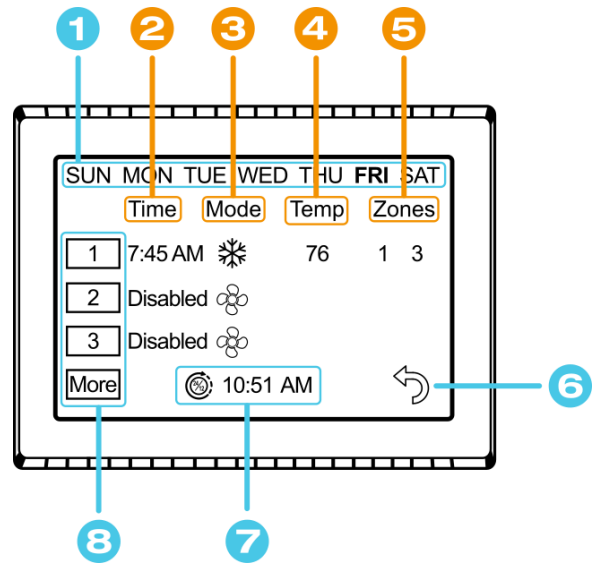
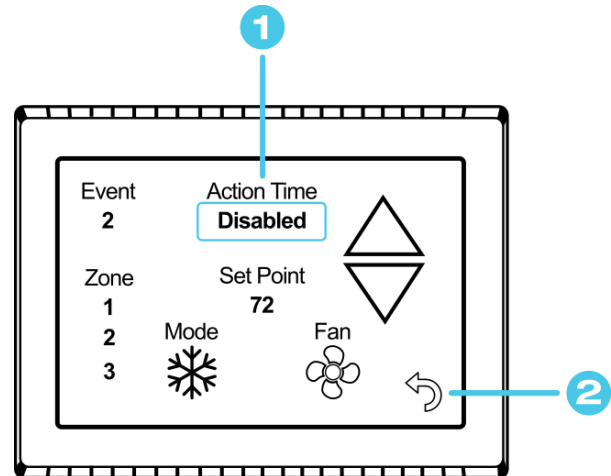
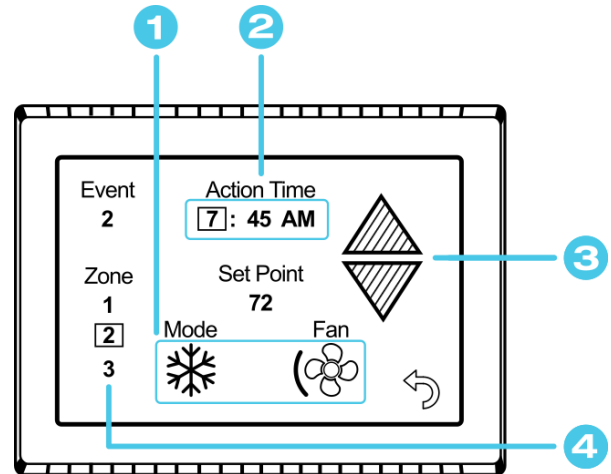

Figure 3 - Main Schedule Screen
Figure 4 - Schedule Edit Screen (Disabled Event)
Figure 5 - Schedule Edit Screen (Enabled Event)
The schedule supports 7 day per week scheduling of events. Events can include changes to the set point or mode of operation for one or more zones. Each numbered row is an event that can be configured. *Figure 3* shows the main schedule screen. Tap the “Schedule” button from the *Settings Screens* to enter.
Events are numbered 1 to 6 along the left side of the screen. Each row is a numbered event. Tap an event to edit it and advance to the schedule edit screen, shown in Figure 4. Tap “More” to see events 4, 5, and 6.
Figure 4 shows the edit screen when an event is tapped as shown in (8) *Scheduled Events* of *Figure 3 - Main Schedule Screen*. The event time on the main schedule screen and Action Time in the edit schedule screen will show disabled until a time is set. Tap “Disabled” (1) at the top of the screen to show a gray box around the Action Time to select it. The up and down arrows change to full color once a selection is made. Use the arrows to make a change to what is selected. Use the back arrow (2) to save any changes and leave the screen.
Figure 5 shows the schedule edit screen once a valid time is set for the event.
1. Tap the edit schedule button as described in the *Schedule – Edit, Enable or Disable* section in settings to enter the main schedule screen, shown by *Figure 3*.
2. Ensure that a valid (7) *System Time* is shown. Tap the day you want to set up a schedule for, then the event you want to edit, all shown by *Figure 3*. Tapping the event will take you to the edit schedule screen, shown by *Figure 4* and *Figure 5*.
5. Tap the back button once again to return to the settings screen. Activate the schedule by pressing the schedule button with the “Enabled/Disabled” subtext as described in the *Schedule – Edit, Enable or Disable* section in settings. When enabled, it may also be noted on the (11) *Info Screen*, under the *Main Screen*.